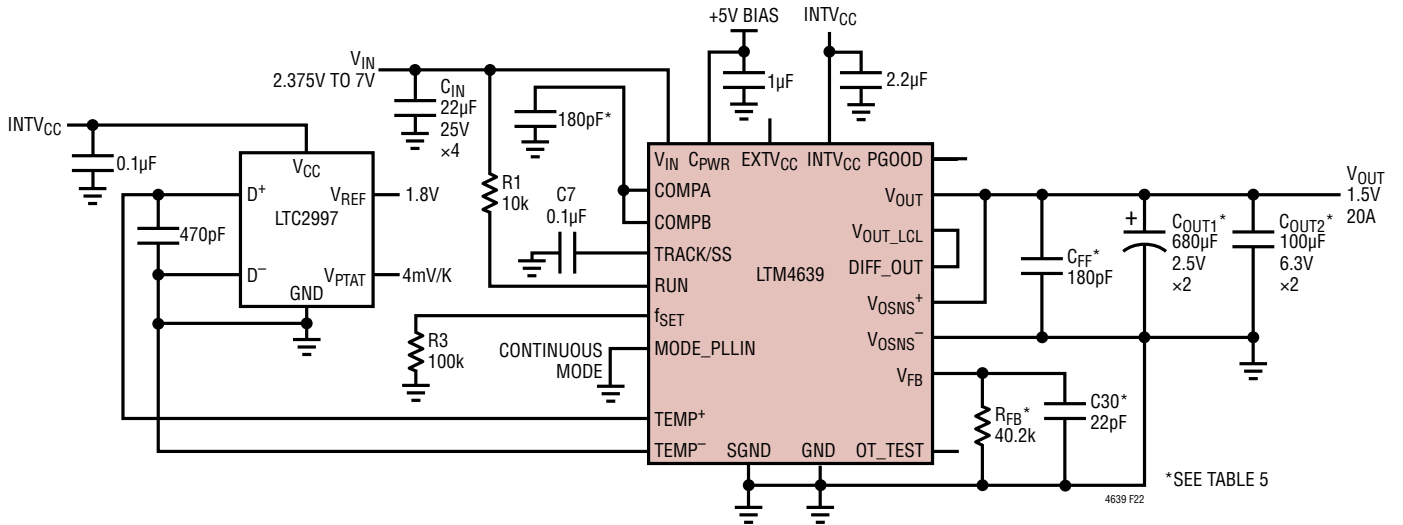

Figure 22. 2.375V to 7VIN, 1.5V at 20A Design
Table 5\*. Output Voltage Response vs Component Matrix (Refer to Figure 22). Typical Measured Values
**Table 6\*. Output Voltage Response vs Component Matrix (Refer to Figure 22). Typical Measured Values**